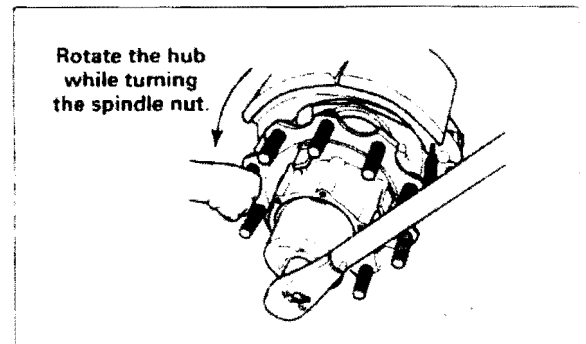

Figure 11
8. Tighten the spindle end nut to 810-850 lb-ft (1100-1150 Nm) while rotating the wheel and hub in a **COUNTERCLOCKWISE** direction. Do not back off the nut after tightening. Mark the nut location relative to the spindle. Figure 11. **ⓘ**